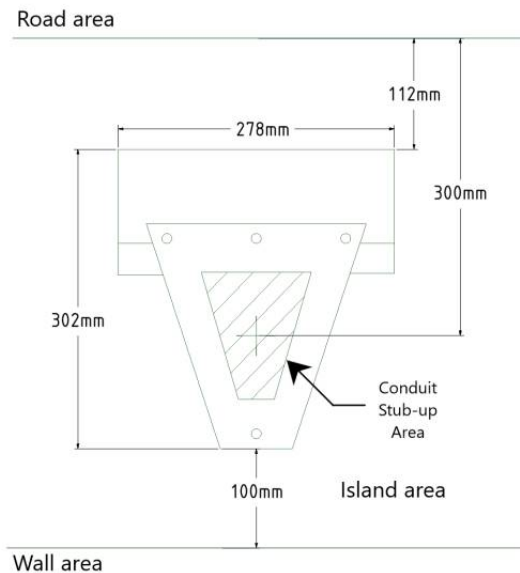

Figure 1.1: E50 terminal footprint.
- The stub-ups and terminal must be positioned as Figure 1.1.
- Recess required between terminal to wall and terminal to road as per Figure 1.1 for operation and maintenance of terminal.